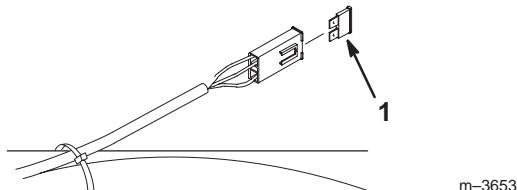

Figure 62
Fuse: Main F1—30 amp, blade-type (Fig. 62)
- Raise the seat to gain access to fuse holder (Fig. 62).
- To replace fuses pull out on the fuse to remove it (Fig. 62).